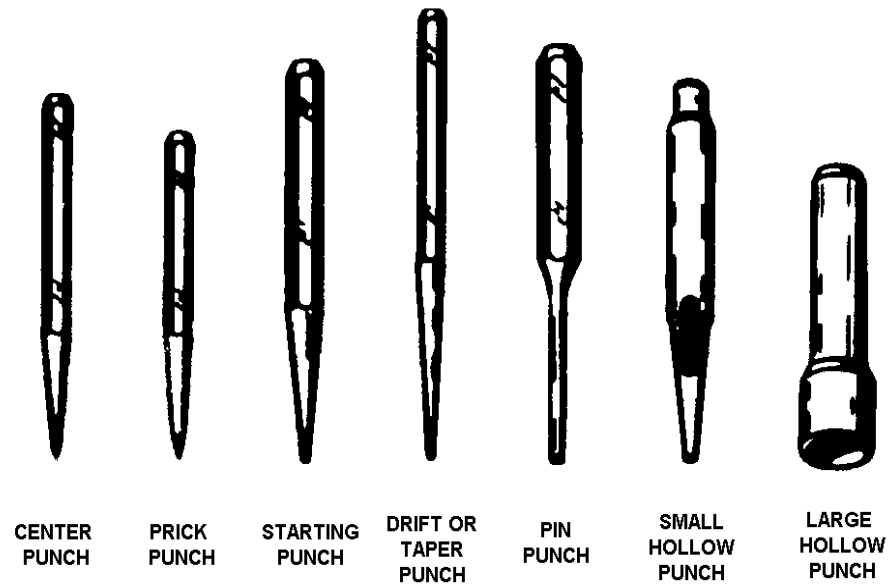

Figure 8, Hand Punches.
- **Hand punches:** Many types of hand punches are used in sheet metal shops. The punches in Figure 8 are used more often than others. The heads and points should be kept in good condition, same as for chisels. The center punch makes a small depression in metal before drilling or punching, thus keeping the twist drill from “walking” as you drill. You use the prick punch to establish location points in laying out patterns on sheet metal. The starting punch is tapered for strength, has a blunt tip, and is used to loosen tight-fitting pins for the removal from a hole.